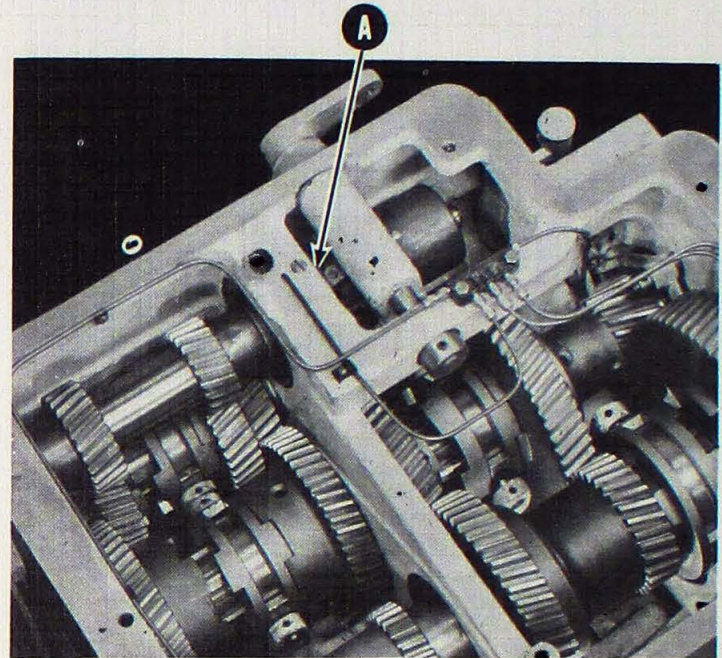

FIGURE 17
Figure 17 is a top view of the headstock with the cover removed and with (A) showing the location of the spindle brake.